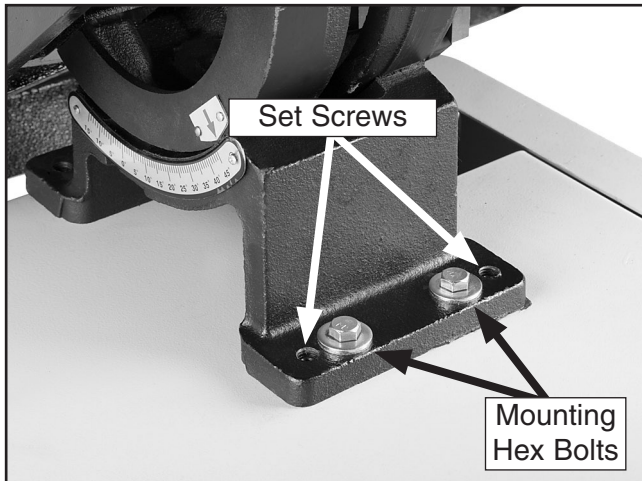

Figure 51. Table mounting hex bolts and adjusting set screws.
5. Loosen the table mounting hex bolts (see **Figure 51**).